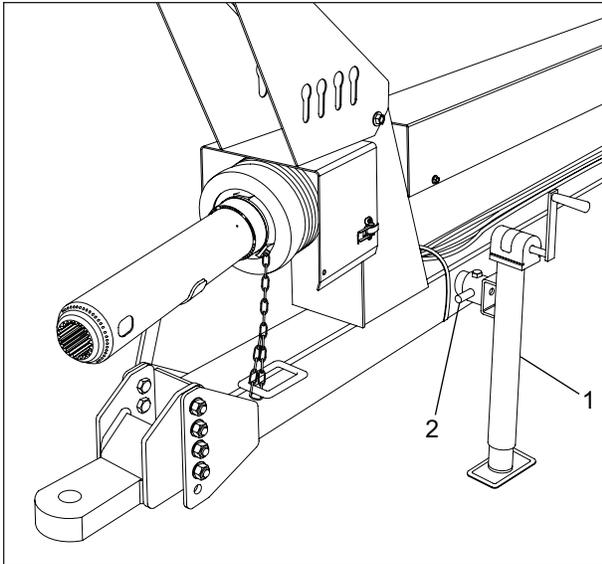

Figure 2 Vérin manuel
- Vérin manuel (figure 2)
VÉRIN MANUEL - FIGURE 2